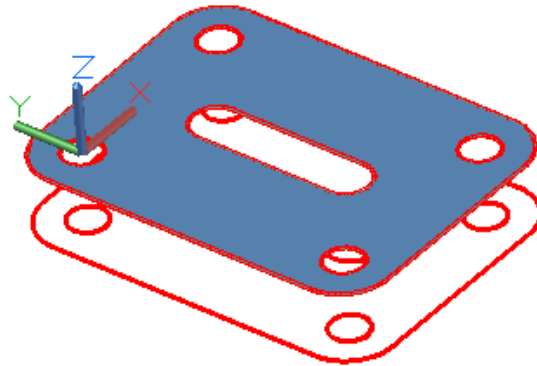

Figure Step 16
Step 16 Using the 3DORBIT command, rotate the model around about 180 degrees and then using what you learned in Steps 10 to 12, insert the regions on the bottom. Subtract the inner regions as you did before. (Figure Step 16)